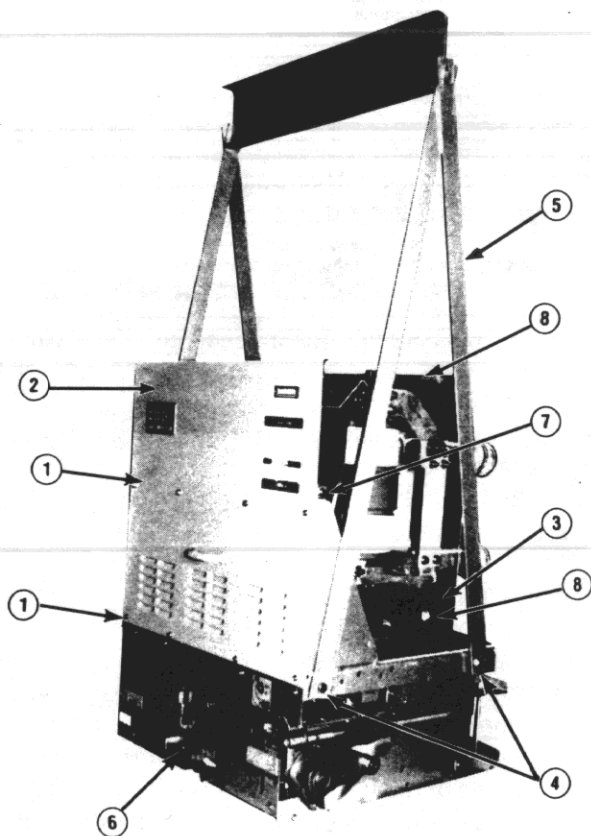

Fig. 1 — Circuit Breaker Assembly with Lifting Yoke Installed
Referring to Fig. 1, if it is necessary to raise or move the breaker, attach a lifting yoke (5) at points (4) on both sides of the truck, or a fifth wheel at point (6) to transport the breaker as required.
Inspect condition of circuit breaker vacuum interrupters and electrical connections prior to installing the circuit breaker into the switchboard. Even though each circuit breaker is completely adjusted and tested at the factory, shipping and handling conditions could cause defects. The front cover and interphase barriers (2 & 3, Fig. 1) must be removed for access to and inspection of the vacuum interrupters, and their associated adjustments.
Removing Front Cover and Interphase Barrier (See Fig. 1)
Installing Front Cover and Interphase Barriers (See Fig. 1)